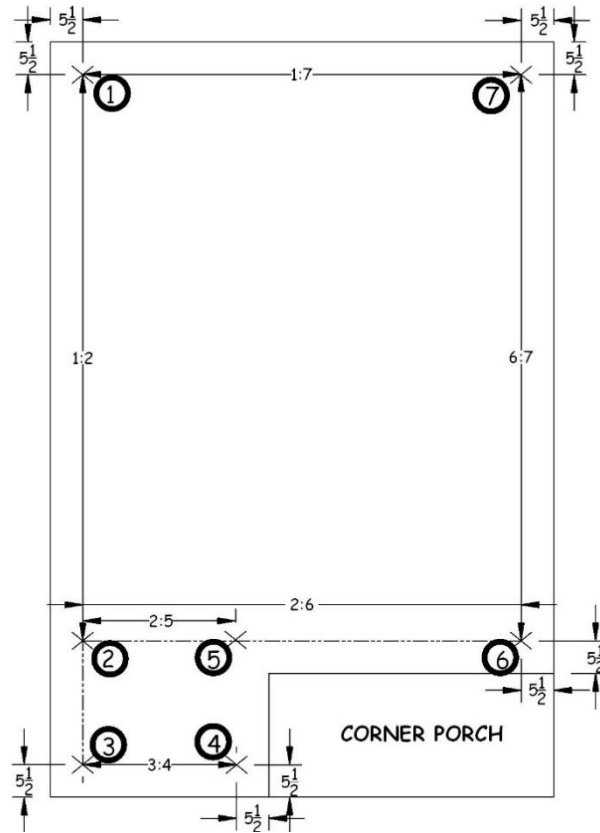

Figure 3-2. Wall Layout with Corner Porch.
1. **Create a Rectangle** on the main deck section (refer to Figure 3-2).